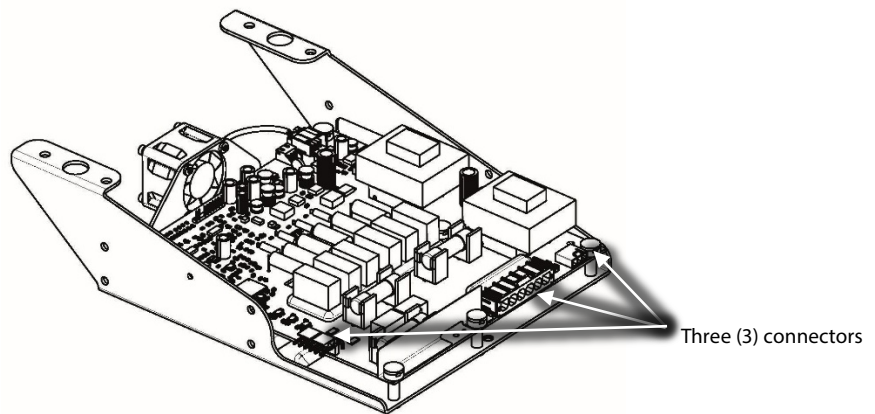

Figure 6 – Soft Start Harness Removal
12. Unplug the cable connectors from the Soft Start board. Refer to Figure 6 (Soft Start Harness Removal).